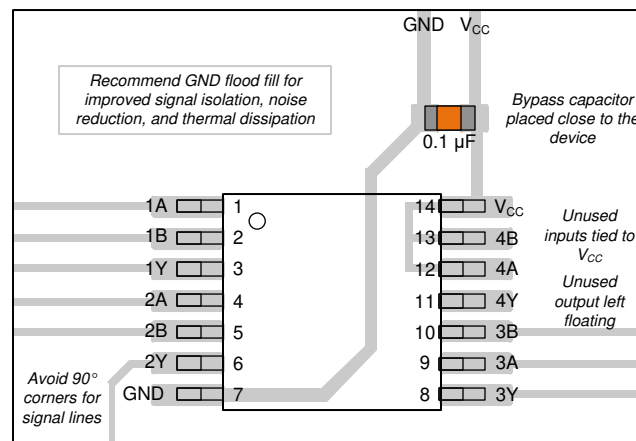

Figure 8-3. Example Layout for the SN74LVC132A
1. Add a decoupling capacitor from V_{CC} to GND. The capacitor needs to be placed physically close to the device and electrically close to both the V_{CC} and GND pins. An example layout is shown in the Figure 8-3.
The power supply can be any voltage between the minimum and maximum supply voltage rating located in the Recommended Operating Conditions. Each V_{CC} terminal should have a bypass capacitor to prevent power disturbance. A 0.1 μ F capacitor is recommended for this device. It is acceptable to parallel multiple bypass caps to reject different frequencies of noise. The 0.1 μ F and 1 μ F capacitors are commonly used in parallel. The bypass capacitor should be installed as close to the power terminal as possible for best results, as shown in Figure 8-3.